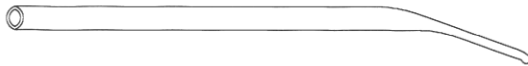

Fig. 8
BEAD LIFTING LEVER (Fig. 8)
- Insert the special lever (Fig.21/ Fig. 8) between the rim and bead to the right of the tool to ensure that the bead remains on the tool. Move the rim towards the tool again (Fig. 21) until the front bead has completely come out. Rest the wheel on the trolley platform to obtain working space for the easy removal of the inner tube.